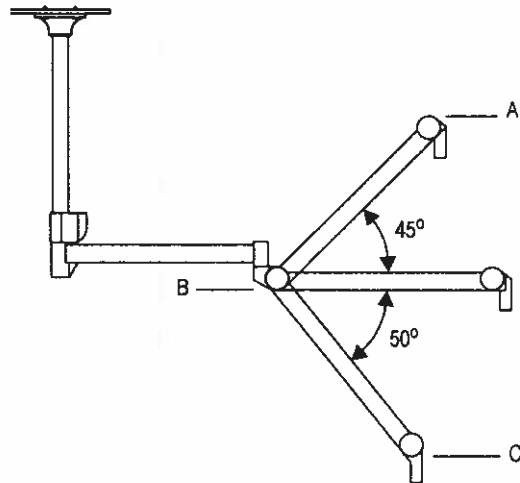

Figure 7 - Portegra2 Movement
- NOTE:** Please refer to figure 7 when reviewing the following material:
Chart 3 - Distance Ranges from the Floor table, shown below, provides distances from the floor to Point A (maximum), Point C and bottom of J-Bow based on the heights to Point B listed in Chart 1. Please refer to Figure 2 and Figure 7. This will allow the customer to gauge how high and low the Spring Arm with J-Bow attached will move with respect to the floor.